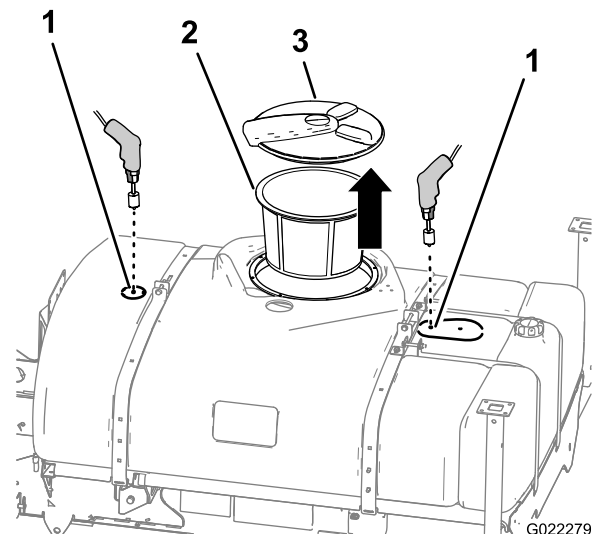

Figure 4
1. Remove the tank lid and the strainer basket from the tank (Figure 4).
2. Locate the 2 drill marks on the main tank (Figure 4).
3. Use a 4 cm (1-5/8 inch) hole saw to drill a hole at each drill mark (Figure 4).